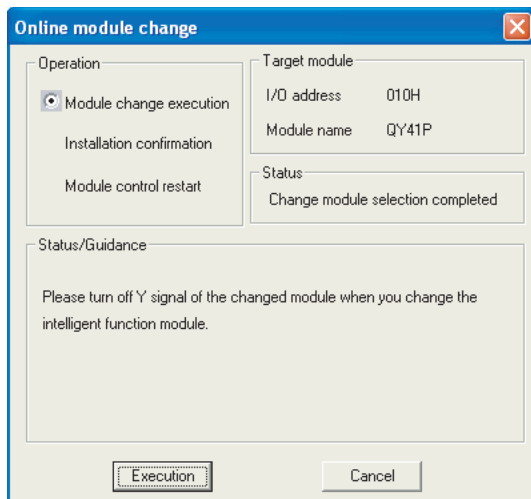

Figure 12.30 Online module change screen
(Table 12.5 shows the communication status with the target module for online module change when the following screen (refer to Figure 12.30) is displayed.)
- 3) When selecting [Online module change] in a status of a module being replaced online, screen shown in Figure 12.30 is displayed.